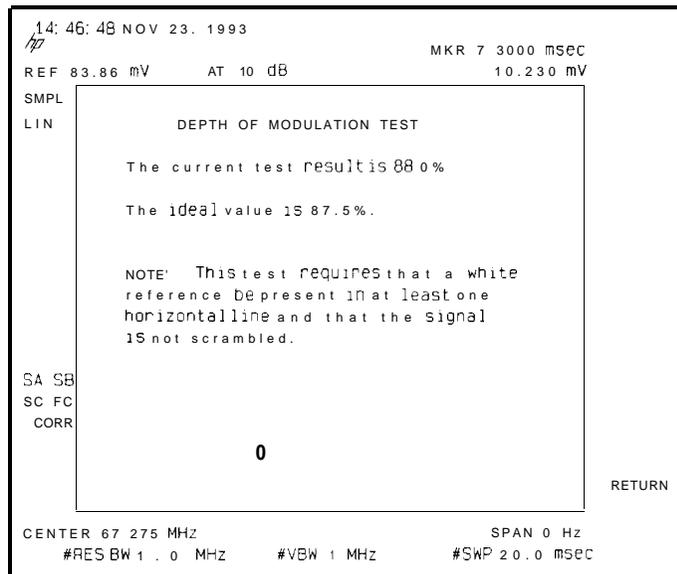

Figure 2-22. Depth of Video Modulation, More Information
4. Press MORE INFO to display the test results, ideal value, and other measurement considerations. See Figure 2-22. Press RETURN when finished.